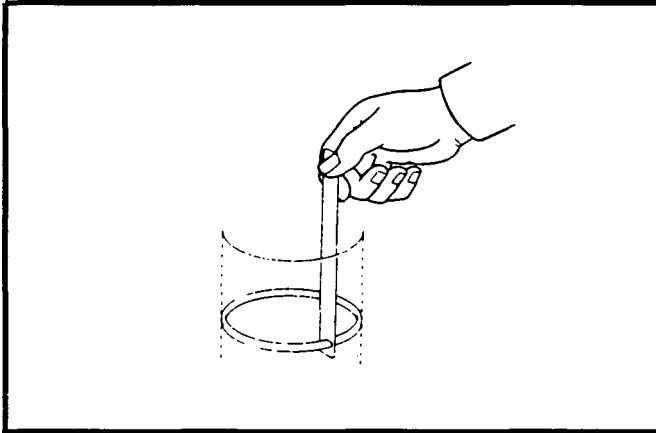

Figure 16.
15. Check the piston ring gaps. See Figure 16.